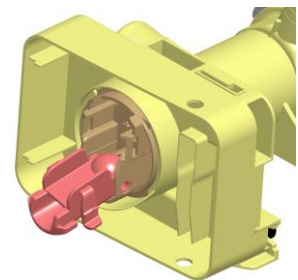

Fig. 4
- position the closing lever as shown in fig. 4.